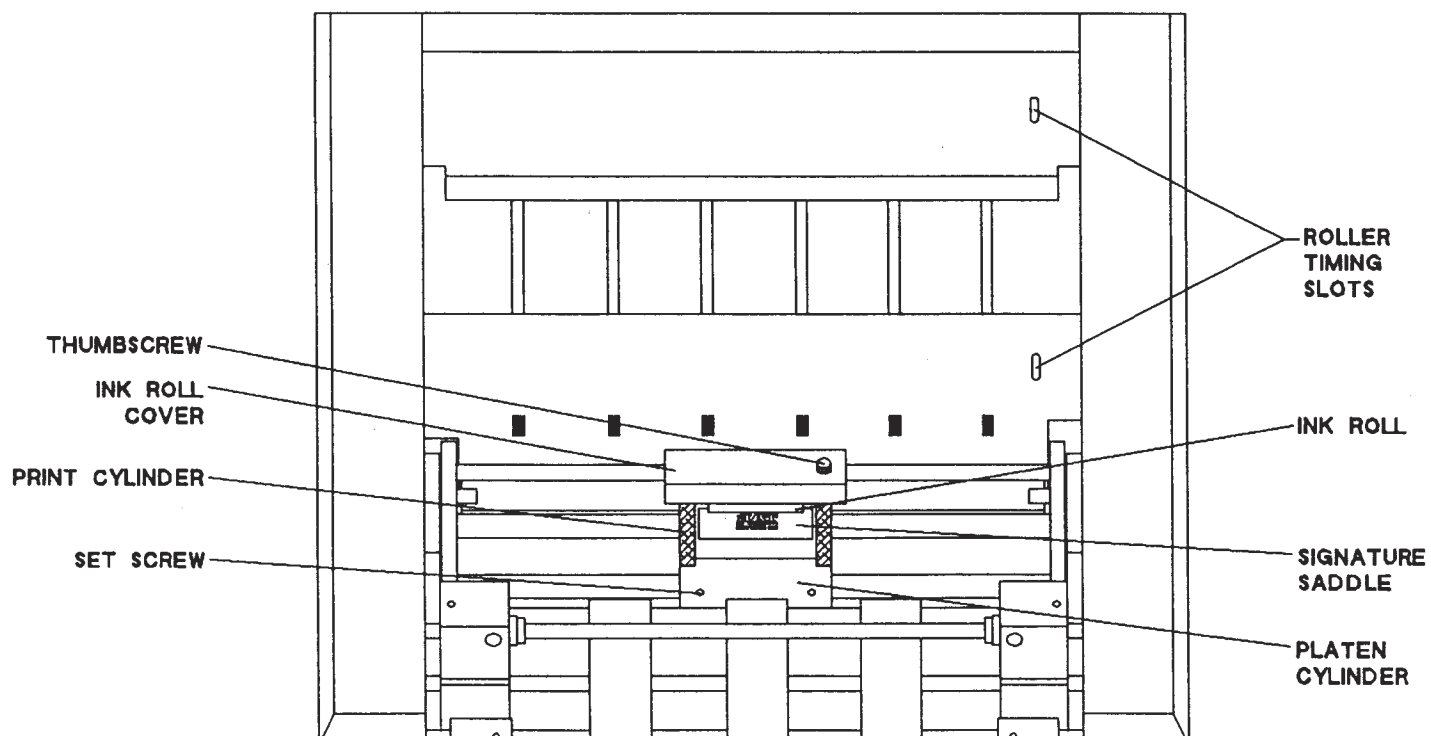

Fig. 12
4. Loosen thumbscrews on ink roller unit and slide unit away from signature area on form. (Fig. 12)
5. Loosen setscrew on plate cylinder. (if setscrews are not in view, rotate free wheeling cylinder until they are in view.) Horizontally align plate cylinder with signature area on form. Tighten setscrews. (Fig. 12)
11. Remove forms from tractors. Install signature patches on imprint cylinder. (Fig. 12)